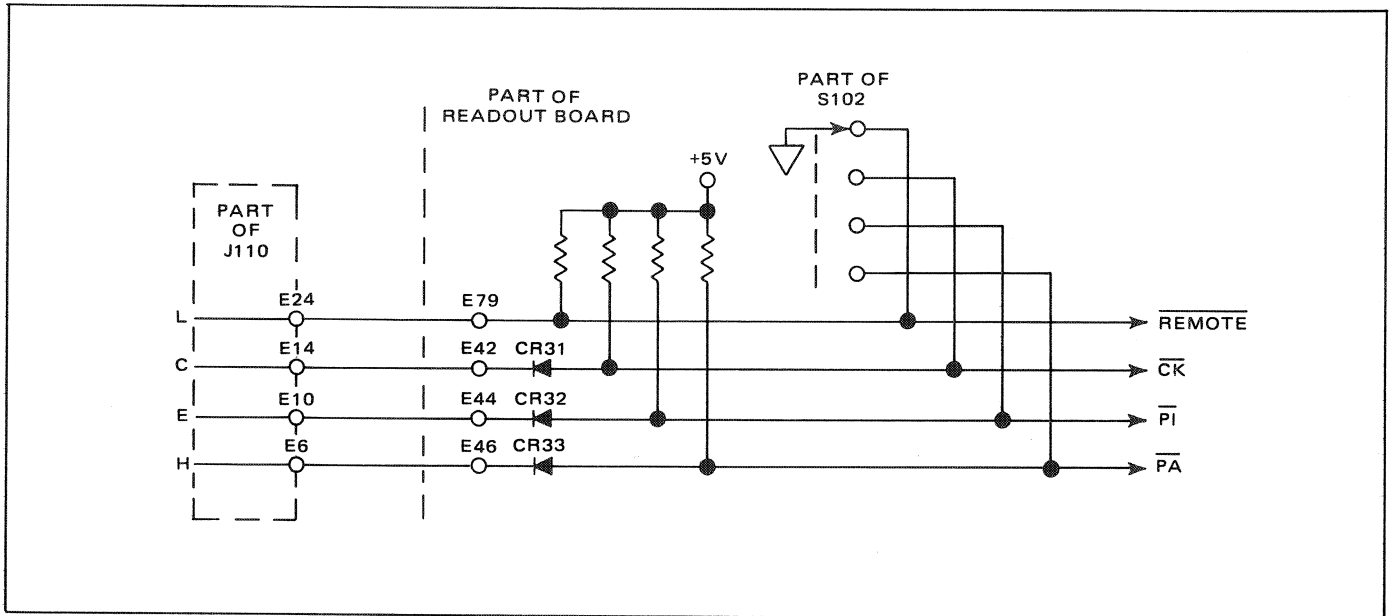

Figure 3.4 - Remote Function Select
3.20 A portion of the remote function control lines and the corresponding front panel function control lines are illustrated in figure 3.4. In all cases except the Remote position, diodes separate the remote input lines from the instrument control lines. The Function switch is shown in the remote position causing the $\overline{\text{REMOTE}}$ line to be at logic 0. Remote lines are energized when they are electrically tied to pin L of J110.